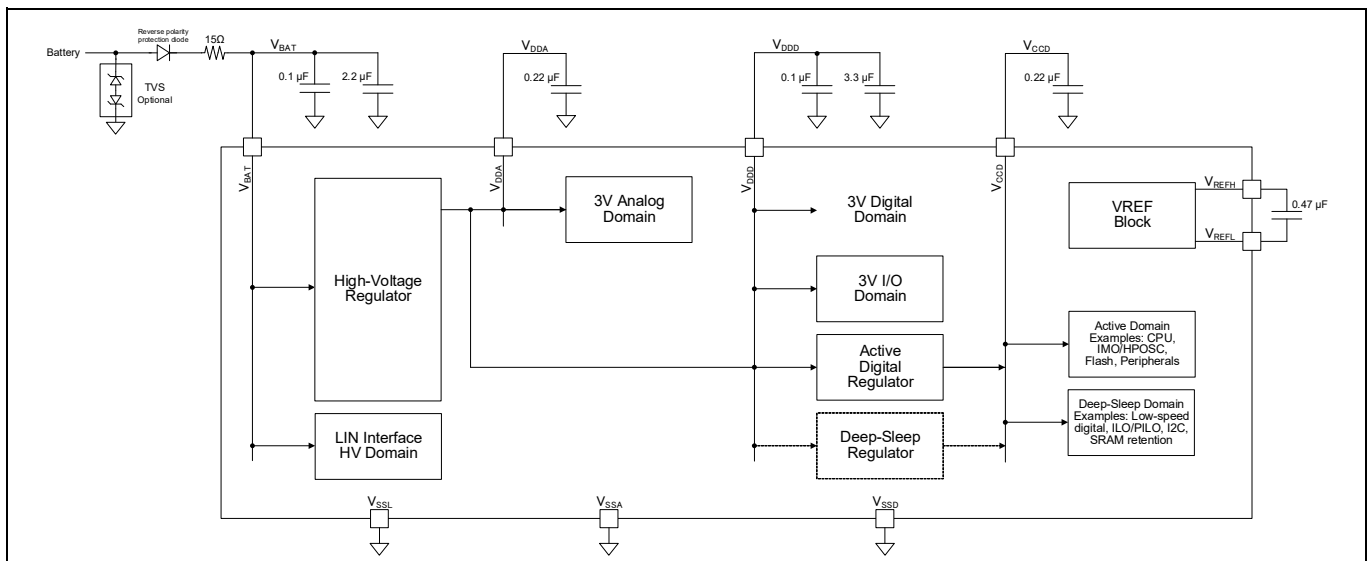

Figure 12-1. Power System block diagram
Figure 12-1 shows the power system diagram and all the power supply pins.
The regulators in Figure 12-1 power the various domains of the device. The system has a high-voltage (HV) regulator, which generates 3.3-V supplies and several regulators for various low-voltage core domains. The analog circuits run directly from the V_{DDA} supply generated by the HV regulator. The core regulators include an Active digital regulator for digital circuitry, and a separate regulator for Deep Sleep. The deep-sleep regulator has switches to pass high-power regulator voltages to loads when the low-power regulators are not required.